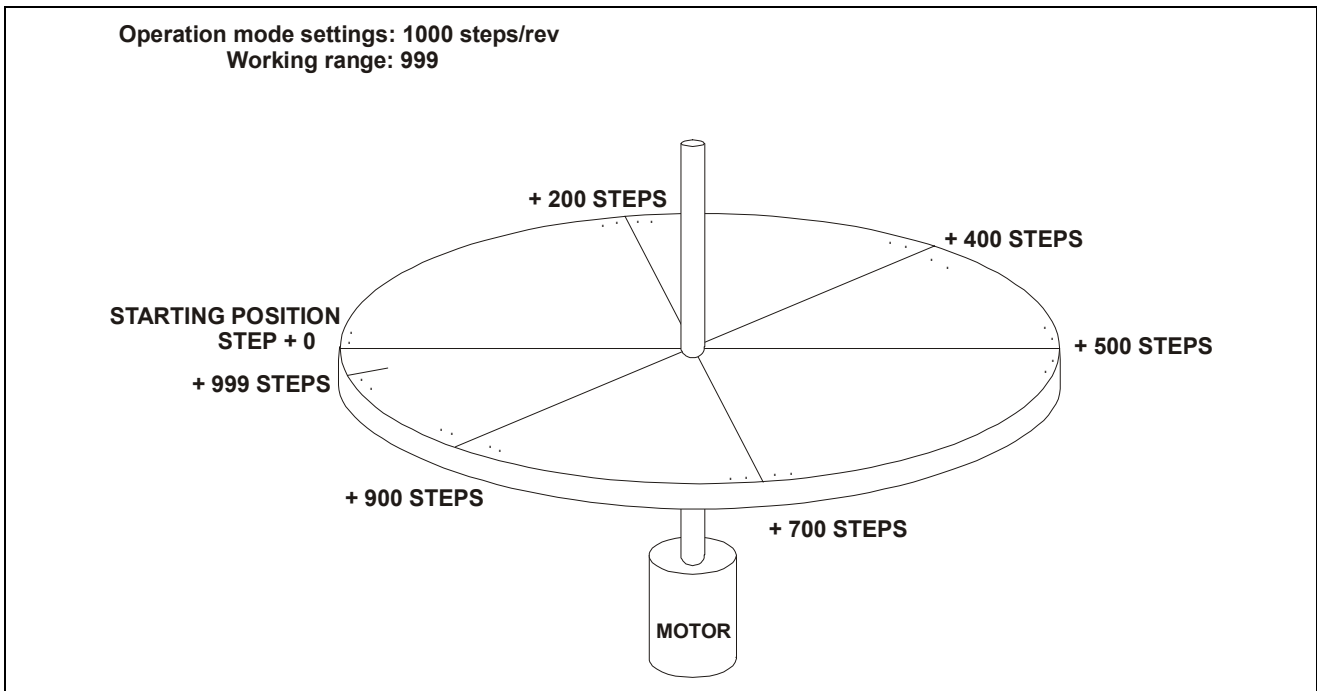

Fig. 4: Tool changer and working range
- During the execution, an *Indexed run* (both with and without ramp) interprets the number of steps like an absolute position to reach and the total movement of the motor is circular (see Fig. 4), without mechanical stops. Motor covers a number of steps depending on the starting position, that can be checked through the internal position absolute counter.
EXAMPLE: The typical application of repetitive cyclic drive operation mode is a tool changer, as the one described in Fig. 4.
Suppose to have a system as the one described in the fig. 4: a stepping motor direct drive to a tool changer with a 1.000 steps for revolution setting. The total number of steps covered to return in the starting position is 999 from the starting position. Position next to +999 is +0. All the positions in this range can be reached referring to an absolute coordinates between +0 and +999. In the example showed in fig. 4, all the positions in the range +0 and + 999 can be reached using an *Indexed run* (both with and without ramp) with a number of steps between 0 and 999. Maximum range is 8.388.607, minimum is 1; even if low working range are hard to use. In the example of fig. 4, six different positions have been defined: +0, +200, +400, +500, +700, +900.
Every run agree with one of the six positions defined on the tool changer of fig. 4.